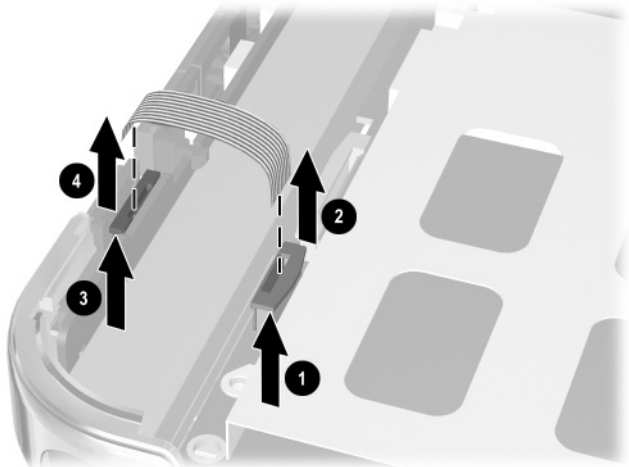

Figure 5-23. Removing the Switch Board Cable
11. Release the ZIF connector ❶ to which the switch board cable is attached and disconnect the cable ❷ from the system board (Figure 5-23).
12. Release the ZIF connector ❸ to which the switch board cable is attached and disconnect the cable ❹ from the switch board.